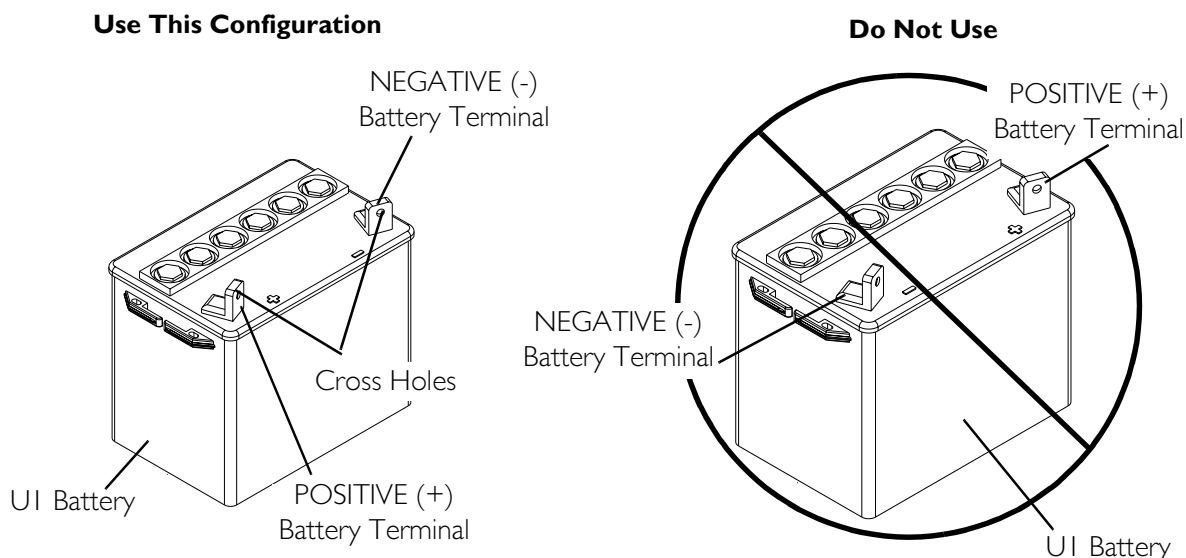

FIGURE 15.1 Using the Proper Batteries
NOTE: For this procedure, refer to FIGURE 15.1 on page 162.
2. Visually draw a horizontal and vertical centerline through the middle of battery (FIGURE 15.1).
4. Visually inspect the battery to ensure the correct position of the **POSITIVE** and **NEGATIVE** terminals (FIGURE 15.1):